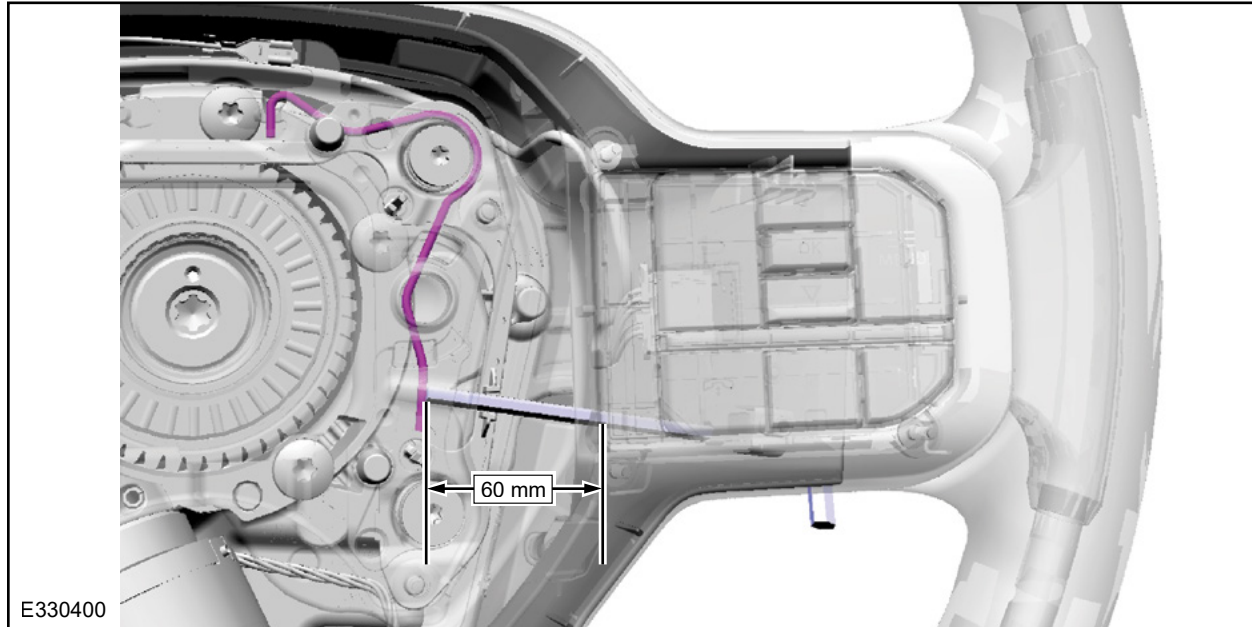

FIGURE 5
6. Contact the Allen key to the spring clip. See Figure 5.